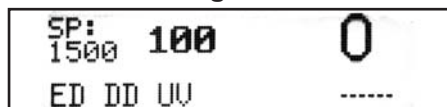

Fig. 5
- For models PRO 100U, PRO 100UM, PRO 100 MULTI, optical density detection, banknote width detection and UV detection are switched ON, (see Fig. 5)
- For PRO 100U, see Fig. 5